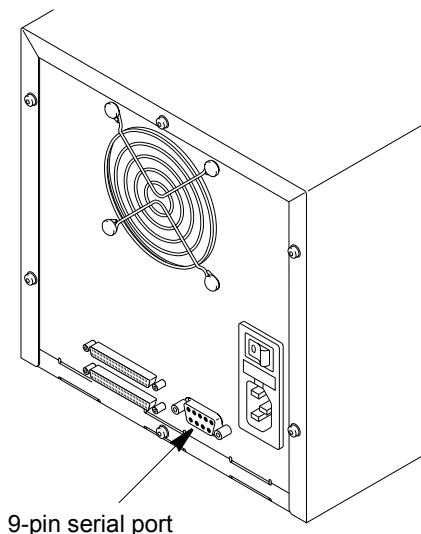

Figure 5-1 Location of serial port for accessing the autoloader's Console interface
2. Connect the 9-pin cable to the back of the autoloader and to the host computer. *Figure 5-1* shows the location of the 9-pin serial port on the back of the autoloader.